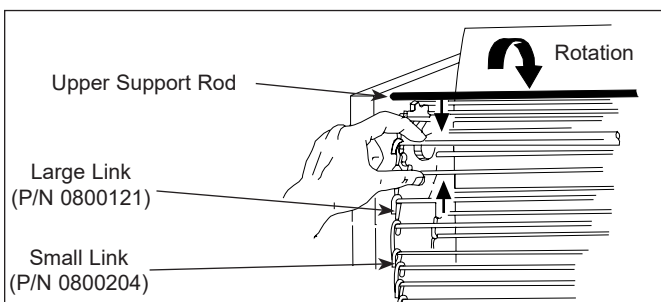

Figure 12. Removing Conveyor Belt Chains
After a time, the Conveyor Chain links will wear and the Conveyor Belt chain will stretch, eventually skipping on the sprockets. This is easily remedied by removing one or more conveyor links from each side of the belt. There are two 1/2" small links on each side of the conveyor belt. The others are large, 3/4" long (Figure 12).
5. Disconnect the Conveyor Belt Chain by squeezing any two links together and unhooking both ends of one link (Figure 12).
7. Place the new Conveyor Belt Chain on the top sprockets with hook ends down. Check for correct positioning (Figure 12).
**NOTE:** The ends of the hooks must point down. (Figure 12).